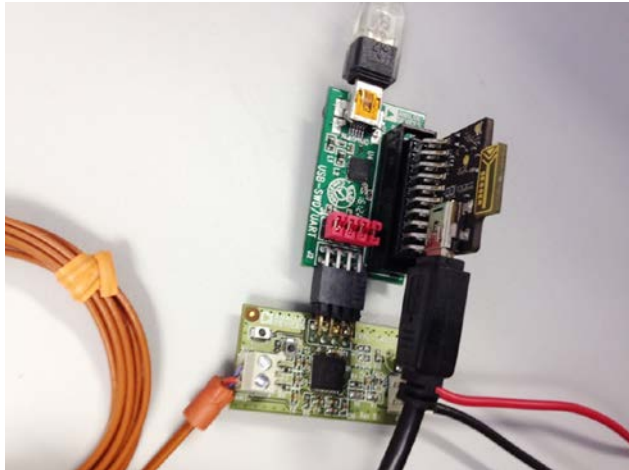

Figure 3. EVAL-CN0300-EB1Z Board Connected to the USB-SWD/UART Board and SEGGER J-Link-Lite Board
- The J1 connector, an 8-pin dual-in-line connector, connects to the USB-SWD/UART board that is provided with the CN0300 support hardware. With the J-Link-Lite board, this allows programming and debugging of this application board. See Figure 3.
Figure 3 shows the USB-SWD/UART board. This board acts as an interface board to a PC USB port. This USB port can be used to program the part using the UART-based downloader. It can also be used to connect to a COM port (virtual serial port) on the PC. This is required for running the calibration routines.